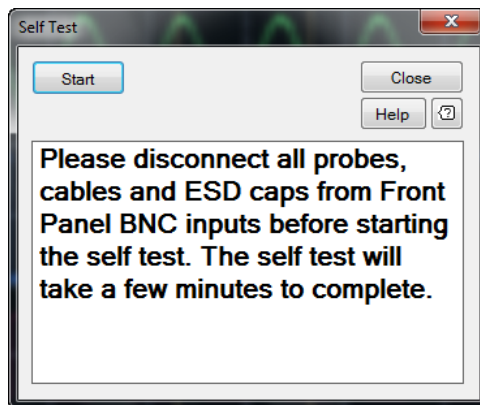

Figure 3-2 Self Test dialog
- 2 The Self Test dialog is displayed as shown in Figure 3-2.